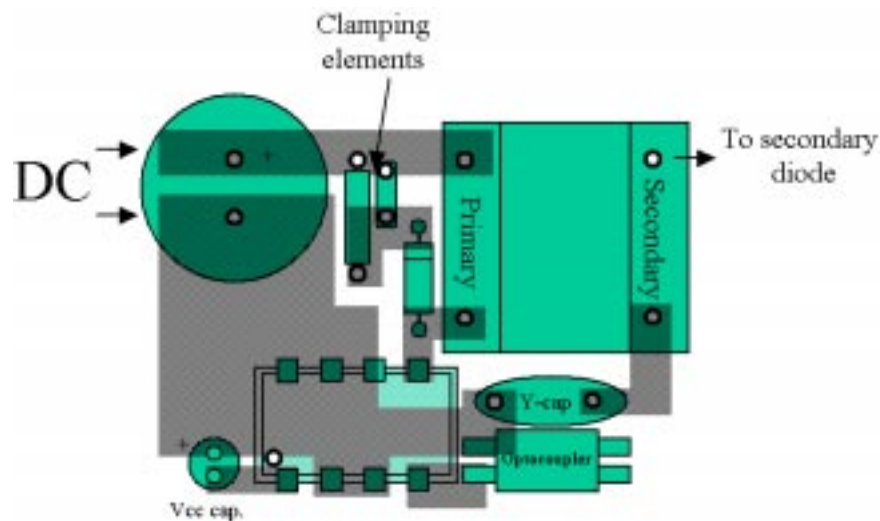

Figure 25. A Possible PCB Arrangement to Reduce the Thermal Resistance Junction-to-Ambient
1.0 W for an ambient of 50°C. The losses inherent to the MOSFET $R_{ds(ON)}$ can be evaluated using the following formula: $P_{mos} = \frac{1}{3} \cdot I_p^2 \cdot d \cdot R_{ds(ON)}$ (eq. 13), where I_p is the worse case peak current (at the lowest line input), d is the converter operating duty-cycle and $R_{ds(ON)}$, the MOSFET resistance for $T_j = 100^\circ\text{C}$. This formula is only valid for Discontinuous Conduction Mode (DCM) operation where the turn-on losses are null (the primary current is zero when you restart the MOSFET). Figure 25 gives a possible layout to help dropping the thermal resistance. When measured on a 35 μm (1 oz.) copper thickness PCB, we obtained a thermal resistance of 75°C/W.